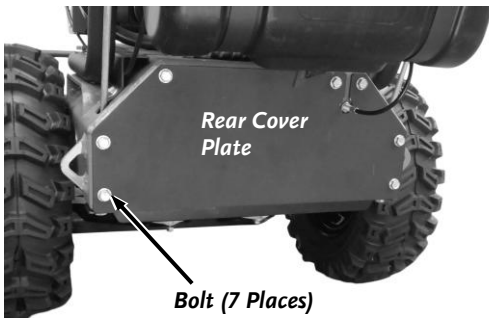

Figure 38
1. Remove the Seven Bolts that secure the Rear Cover Plate using a 1/2" Wrench and Remove the Cover (**Figure 38**).